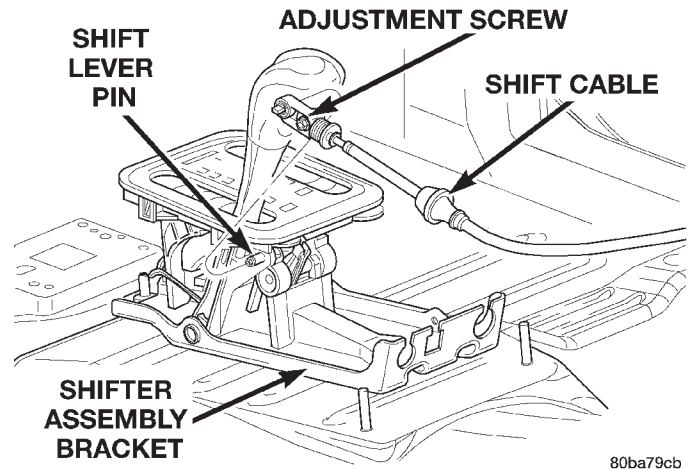

Fig. 28 Transmission Shift Cable at Shifter
(1) Shift transmission into Park.
(2) Remove shift lever bezel and any necessary console parts for access to shift lever assembly and shifter cables.
(3) Disconnect the transmission shift cable at shift lever and shifter assembly bracket (Fig. 28).
(4) Disconnect the brake transmission interlock cable from the shifter BTSI lever and the shifter assembly bracket.